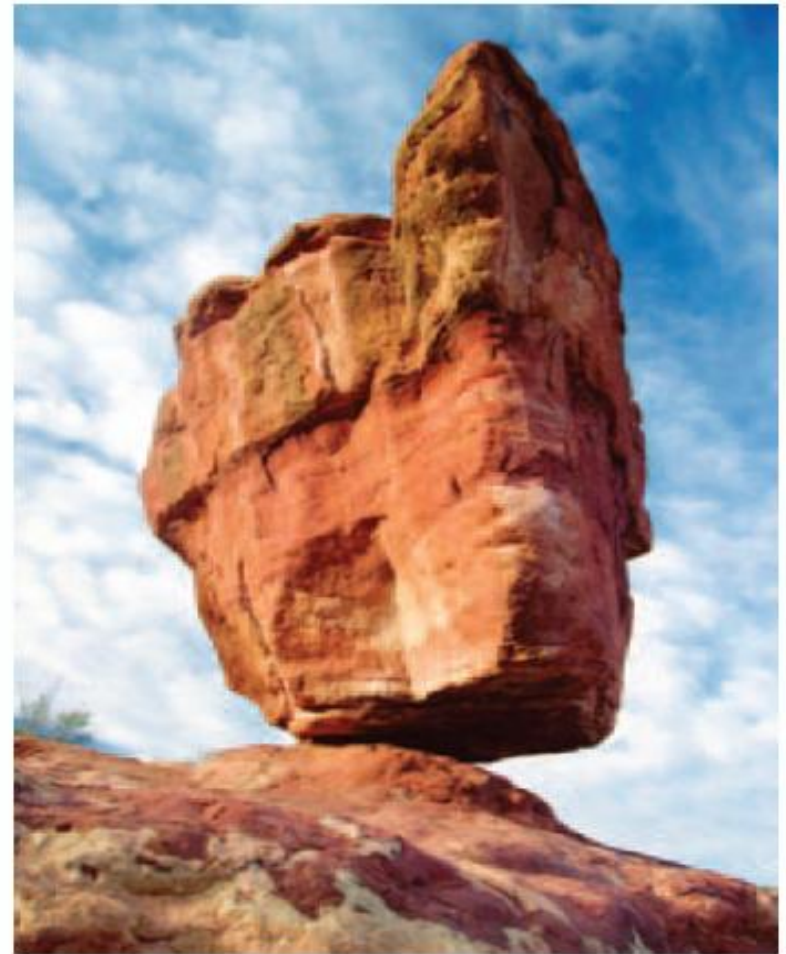

Fig. 12-1 A balancing rock. Although its perch seems precarious, the rock is in static equilibrium. (Symon Lobsang/Photis/ Jupiter Images Corp.)
*The balancing rock of Fig. 12-1 is an example of an object that is in **static equilibrium**. That is, in this situation the constants in the above requirements are zero.*